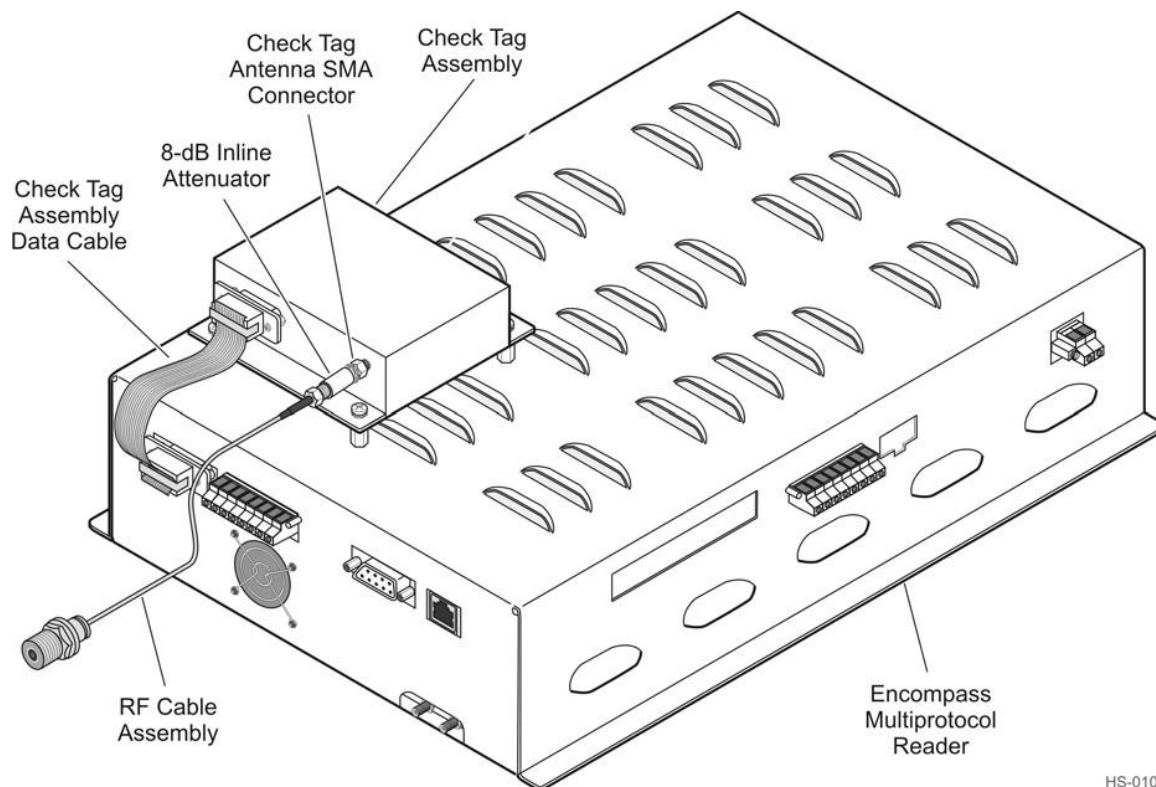

Figure D-4 Check Tag Assembly Mounted on Encompass Housing
4. Connect 8-dB inline attenuator to check tag assembly antenna port (Figure D-4) and tighten to 10 in-lb.